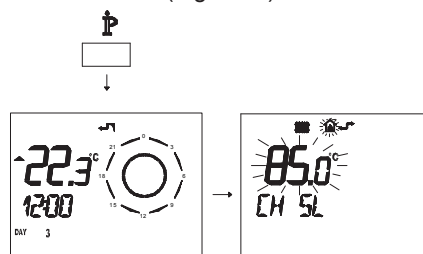

Fig. 8.12
- Press button  for more than 3 seconds to enter in *INFO* (Fig. 8.12) mode.